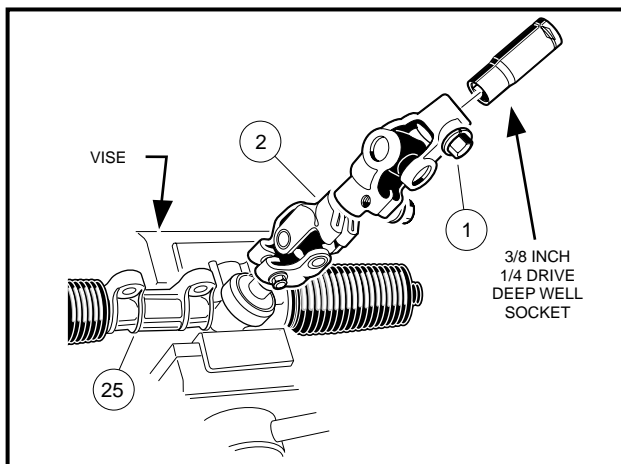

Figure 7-15 Rack and Pinion Resistance
- 11.2. Insert a 3/8 inch deep well socket into the steering column end of the universal joint (2) and tighten the bolt (1) to 15 ft-lb (20.3 N·m) **(Figure 7-15, Page 7-11)**.